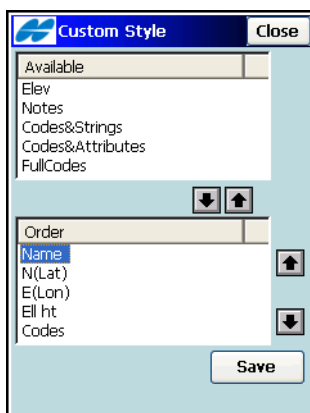

Figure 5-32. Custom Style
**To customize the file format**, enter the order of data using the *Custom Style* screen (Figure 5-32 on page 5-23).
2. Select items from the *Available* list and tap the right arrow button to move them to the *Order* list (Figure 5-32 on page 5-23).